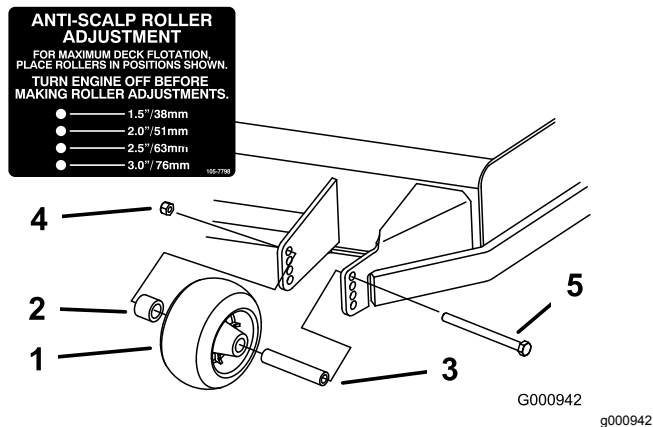
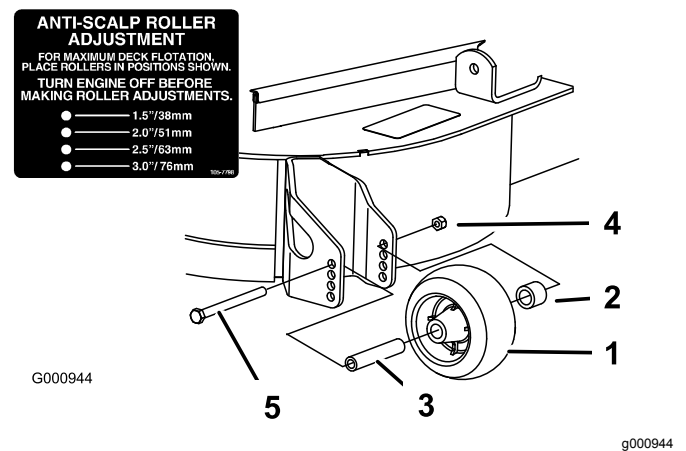
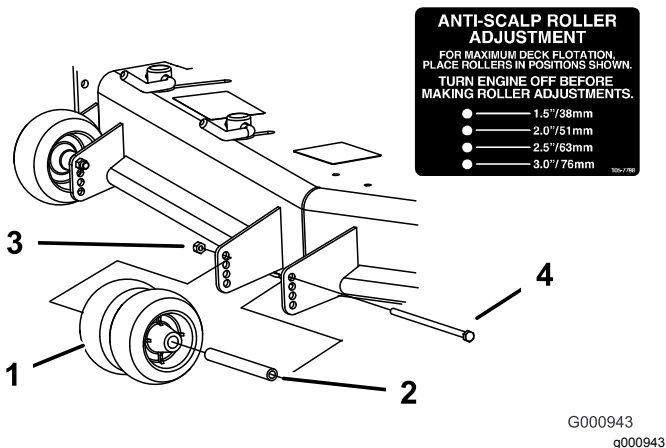

Figure 29
Figure 31
Figure 30
3. Adjust the anti-scalp rollers as shown in Figure 29, Figure 30, and Figure 31.